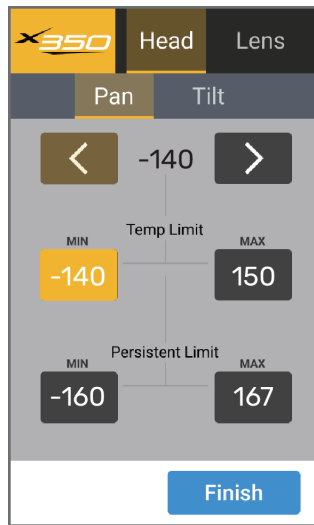

Figure 45 - The Pan Axis Reaches a Temporary Limit
3. If the axis stops moving and the arrow button you pressed is shaded yellow, the axis has reached a temporary limit (**Figure 45**).